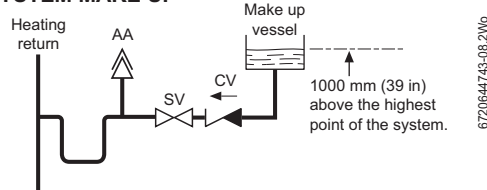

Fig. 2 System fill
- The CH sealed system must be filled using a WRAS approved filling loop or comply with figure 2 for system fill.
- Where the system volume is more than 100 litres or exceeds 2.65 bar at maximum heating temperature, an extra expansion vessel (2) must be fitted as close as possible to the appliance in the central heating return.
- Pressurise the extra expansion vessel (2) to the same figure as the expansion vessel built into the appliance.